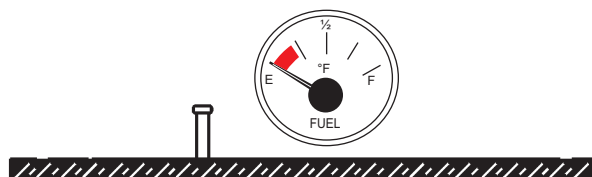

Figure 40. Full Fuel Tank
3. **NEVER overfill the fuel tank** — It is important to read the fuel gauge when filling the trailer fuel tank. **DO NOT** wait for fuel to rise in the filler neck (Figure 40).